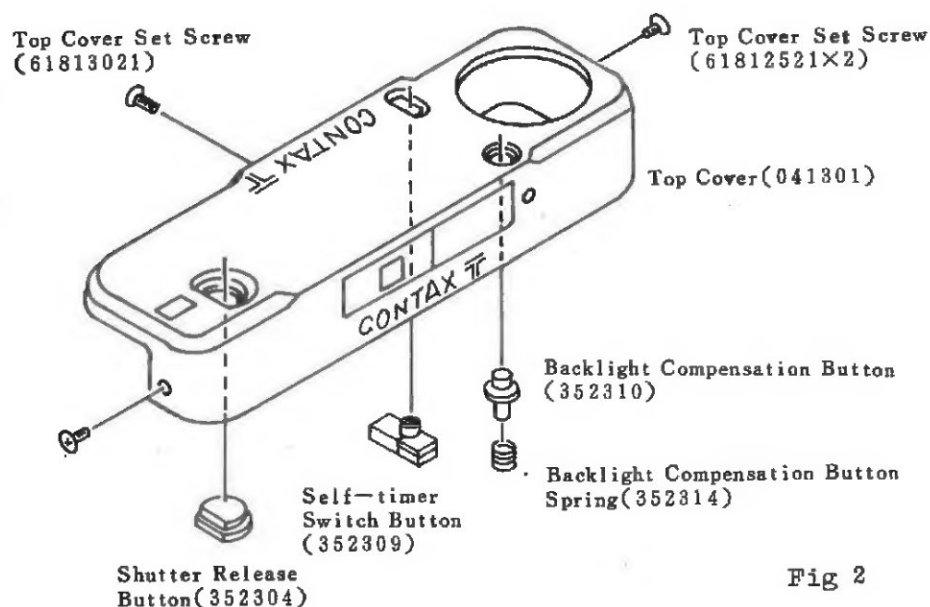

Fig 2
See(Fig 2).
- Note:** a) Backlight Compensation Button (352310), Backlight Compensation Button Spring (352314), Shutter Release Button (352304) and Self-timer Switch Button (352309) W/Self Name Plate (352312) easily fall off when the Camera Body is turned upside-down. See (Fig 2).